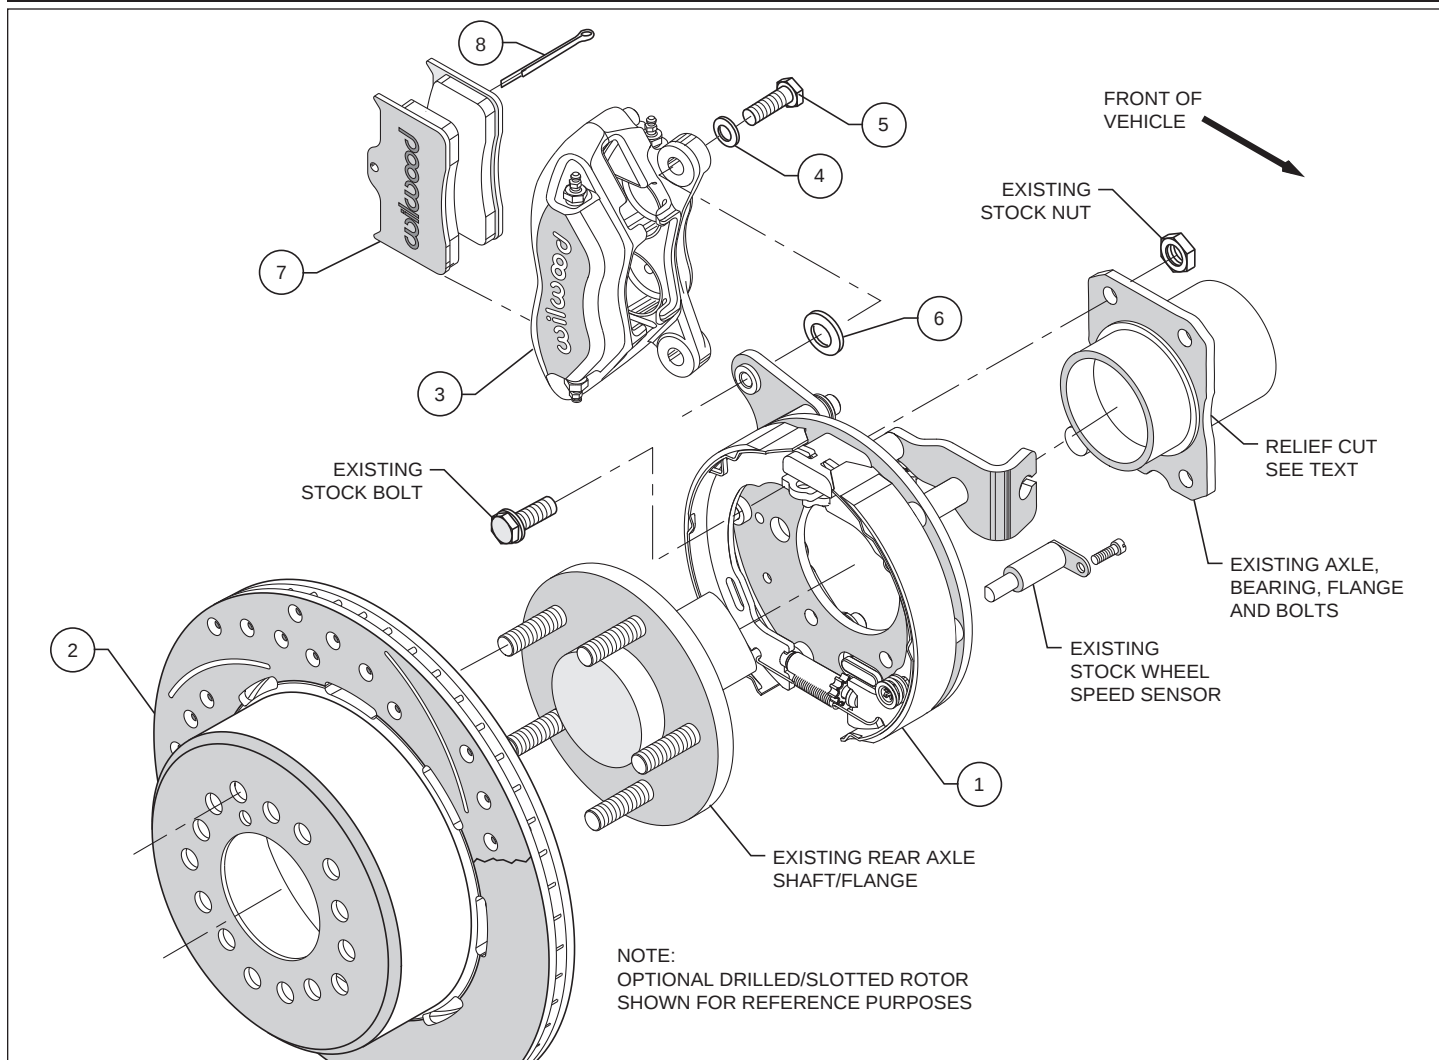
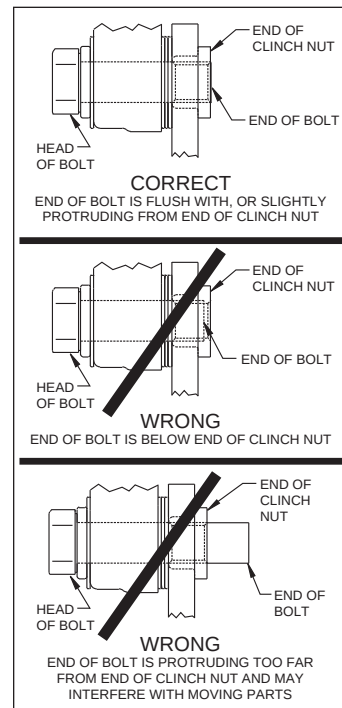

Figure 1. Typical Installation Configuration
Figure 4. Clinch Nut Engagement Diagram
- Orient the bracket assembly (1), as shown in Figure 1, and mount to the axle housing flange using the Original Equipment Manufacturer (OEM) bolts and nuts, Figure 1. Ensure that the bracket assembly backing plate fits flush against the axle housing flange. Apply red *Loctite*® 271 to the OEM bolt threads and torque to OEM specifications.
- **NOTE:** Please reference the caution statement at the beginning of the assembly instructions. Mount the caliper (3) onto the caliper mounting bracket (1) using bolts (5) and washers (4), as shown in Figure 1. Initially place one .035" thick shim (6) on each bolt between the caliper and the bracket, Photo 2. Temporarily tighten the mounting bolts and view the rotor (2) through the top opening of the caliper. The rotor should be centered in the caliper, Photo 3. If not, adjust by adding or subtracting shims between the bracket and the caliper. Always use the same amount of shims on each of the two mounting bolts. **NOTE:** The end of each bolt must be flush with or slightly protruding from the head of the clinch nut, as shown in Figure 4. If necessary place spare shims between washer (4) and caliper mounting ear to achieve the proper clinch nut engagement. Once the caliper alignment and clinch nut engagement are correct, remove the bolts one at a time, apply red *Loctite*® 271 to bolt threads, and torque to 40 ft-lb.